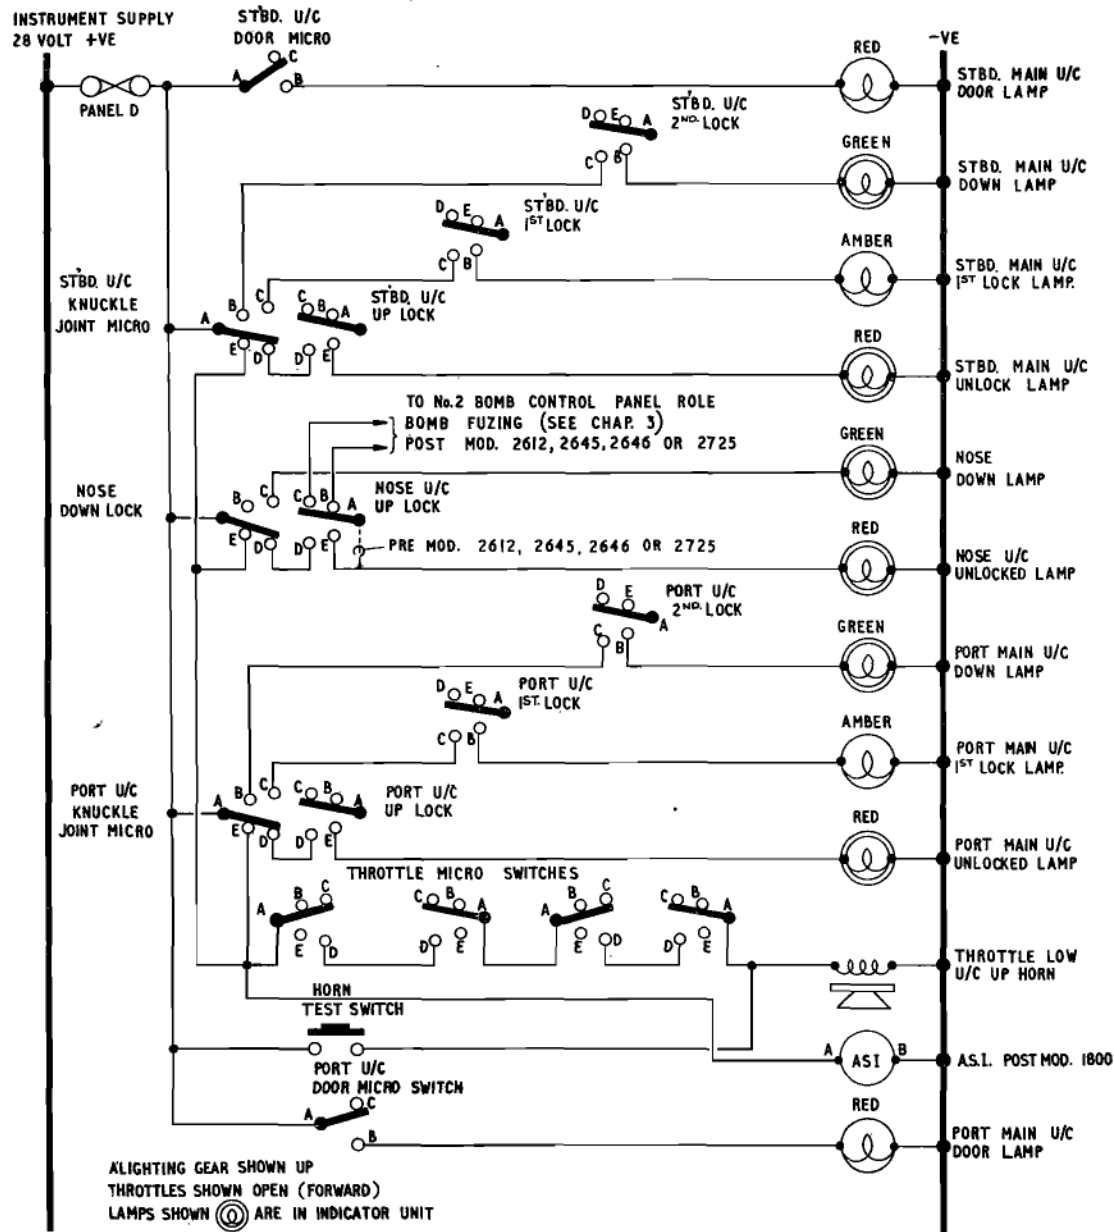

Fig. 6. Alighting gear indication and warning (pre-mods. 2257 and 2118)
Pre-Mod. 2257 (fig. 6)
**WARNING HORN (fig. 6 — 7)**